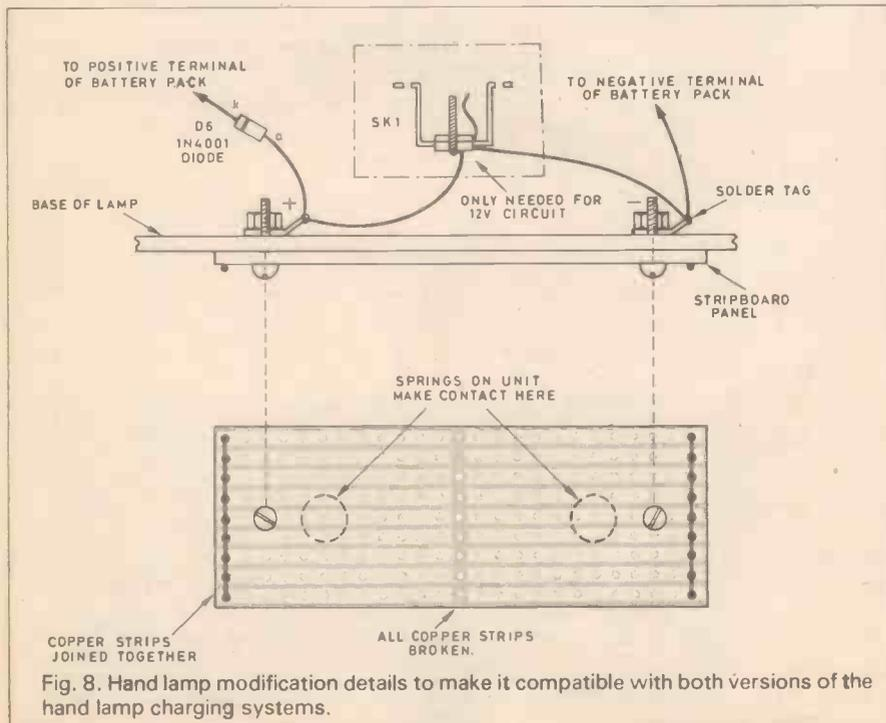

Fig. 8. Hand lamp modification details to make it compatible with both versions of the hand lamp charging systems.
Certain modifications need to be made to the hand-lamp to make it compatible with the two chargers. These are set out below and illustrated in Fig. 8.
**For the mains unit:** Refer to Fig. 8 and construct the stripboard connector to be attached to the base of the lamp. Interconnect all the strips on the left and right-hand sides of the panel and break them all along the centre line as indicated.
If the lamp is to be charged from either a mains or a battery unit, then it will be necessary to fit it with both a stripboard connector on the base and a socket. Note, however, that only one diode is needed, see Fig. 8.